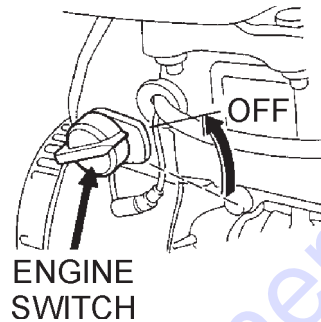

Figure 15. Engine ON/OFF Switch (OFF Position)
2. After the engine **cools**, turn the engine start/stop switch to the "**OFF**" position (Figure 15).